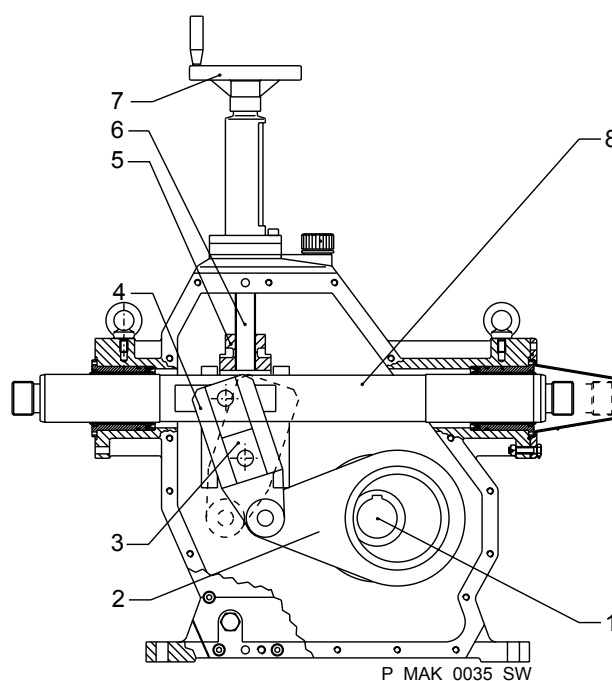

Fig. 8: Cross-section through the power end
A motor drives the cam shaft (1). A connecting rod (2) rests on the cam shaft (1) which allows the oscillating crank (4) to rotate about a variable pivot point, see Fig. 8. The lifting arm of the oscillating crank, which lies above the pivot point, moves the slide rod (8) which itself drives the liquid end.